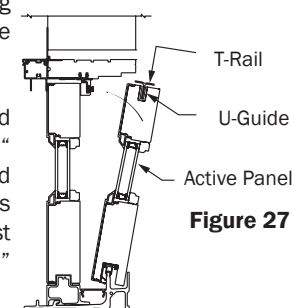

Figure 27
29. Starting with one of the operable panels, lift from the bottom of the panel, and place the rollers onto the roller track. (Fig. 27).
30. Next, place the corresponding side's T-Rail into the U-Guide at top of panel. Finish by tilting the panel upright into place (Fig. 27).
31. Reattach the T-Rail to the head by replacing the #6 x 5/8" screws that you set aside. Hold onto active panel until t-rail is fastened. **Note:** The innermost holes (8) will require the 3" screws, step 32.